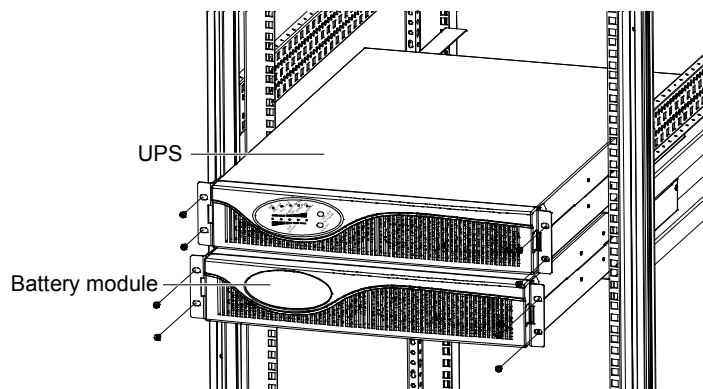

Figure 2-6 Rack installation of standard UPS with single UPS and single battery module
3. The installation method of the UPS is the same as that of the battery module. Install the UPS on top of the battery module. The rack installation method of standard UPS with single UPS and single battery module is shown in Figure 2-6.